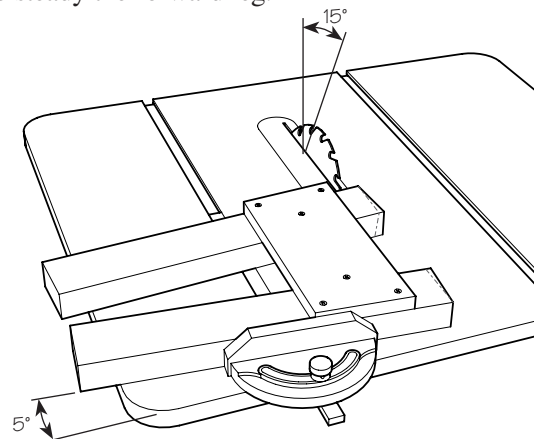
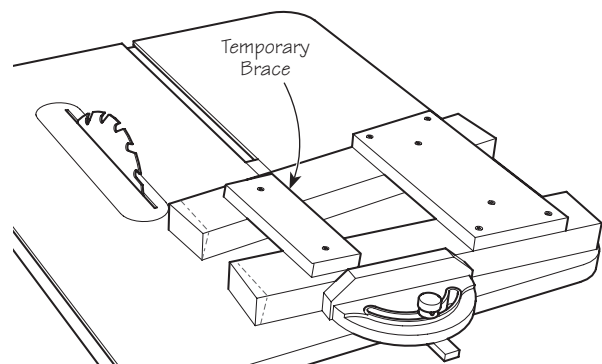

Figure 13: Trim the bottom of the legs.
Figure 14: Trim the top of the legs.
2. **Trim the legs to the correct angle.** Use a bandsaw or table saw to cut the top and bottom of the back leg assembly. Set the miter gauge to a 5° angle and tilt the table saw blade 15° (or the table, if you are using a bandsaw), as shown in **Figure 13**. The miter gauge must be set as accurately as possible. To double check its setting when the legs are in position as pictured, the distance from the bottom of each leg to a reference plane (such as the rip fence or a miter gauge slot) must be equal. Trim the top and bottom of the legs. Keep in mind that the cuts at each end of the leg assembly must be parallel. When cutting as shown in **Figure 14**, you should screw or nail a temporary brace across the legs to steady the forward leg.